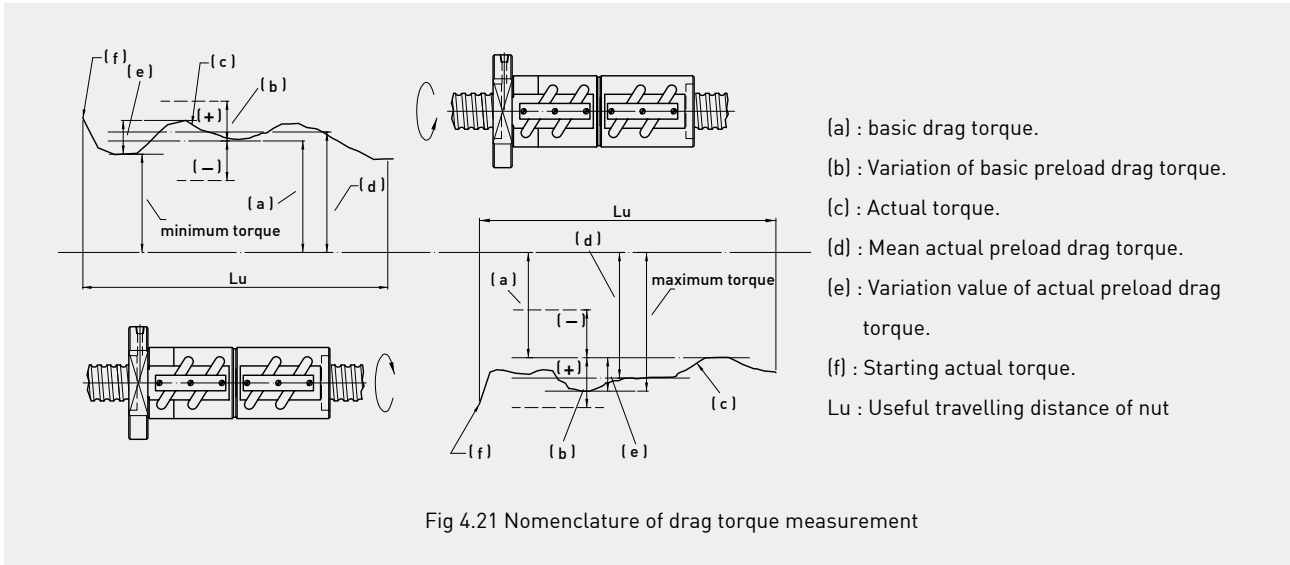

Fig 4.21 Nomenclature of drag torque measurement
HIWIN has developed a computerized drag torque measuring machine which can accurately monitor the drag torque during screw rotation. Therefore, the drag torque can be adjusted to meet customer requirements (Fig. 2.5). The measurement standard for preload drag torque is shown in Fig. 4.21 and Table 4.7.
(3) The measurement result is illustrated by the standard drag torque chart. Its nomenclature is shown in Fig. 4.21.
(4) The allowable preload drag torque variation as a function of accuracy grade is shown in Table 4.7.